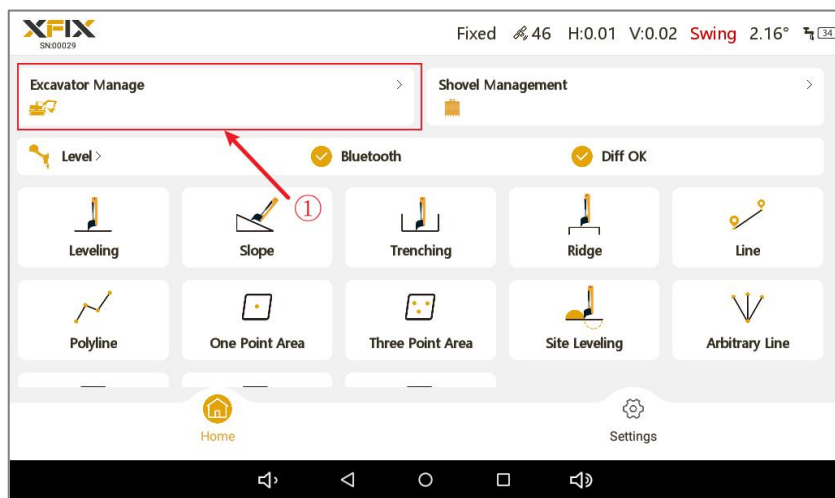

Figure 3-61
(3) Connect the leveling instrument and enter the app for calibration.
- ① Clean the contact surface. Before installation, thoroughly clean the corresponding magnetic attachment area on the arm. The device is attached to the side of the arm via strong magnets, as shown in the figure above.
- ② Power on the leveling instrument, open the XFIX app, and connect to the leveling instrument via Bluetooth. (For details, see section 3.1 Bluetooth Connection to EX30.)
- ③ Tap 'Excavator Management', as shown in Figure 3-61.